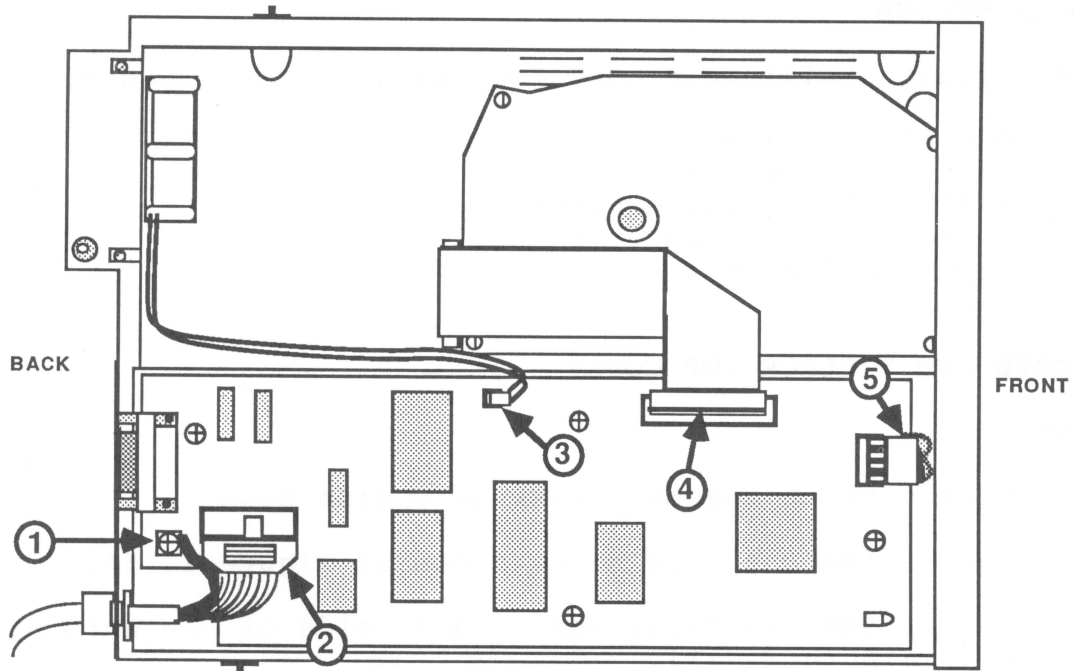

FIGURE 3
2. Remove the grounding screw (see Figure 3, #1).
3. Disconnect the interface cable and remove it (see Figure 3, #2).
4. Unplug the fan connector (see Figure 3, #3).
5. Disconnect the interface cable from the controller board to the hard disk (see Figure 3, #4).
6. Unplug the power supply connector (see Figure 3, #5).
3. Plug in the power supply connector (see Figure 3, #5).
4. Connect the interface cable from the hard disk to the controller board (see Figure 3, #4).
5. Plug in the fan connector (see Figure 3, #3).
6. Reposition the interface cable and connect it (see Figure 3, #2).
7. Replace the grounding screw (see Figure 3, #1).